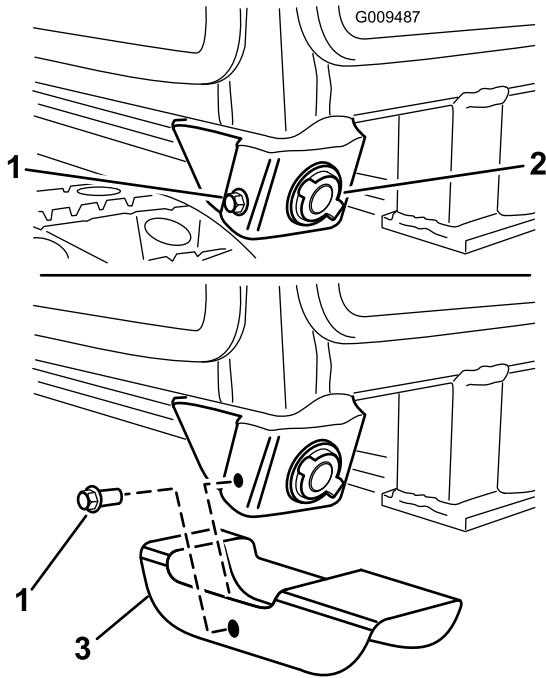

Figure 66
6. Remove the bolt securing the power point assembly to the right front corner of the cab frame (Figure 66).
7. Slide the power point shield up over power point while aligning the shield hole with the hole in the power point assembly plate (Figure 66). The longer end of the shield is to point forward to protect the power point.